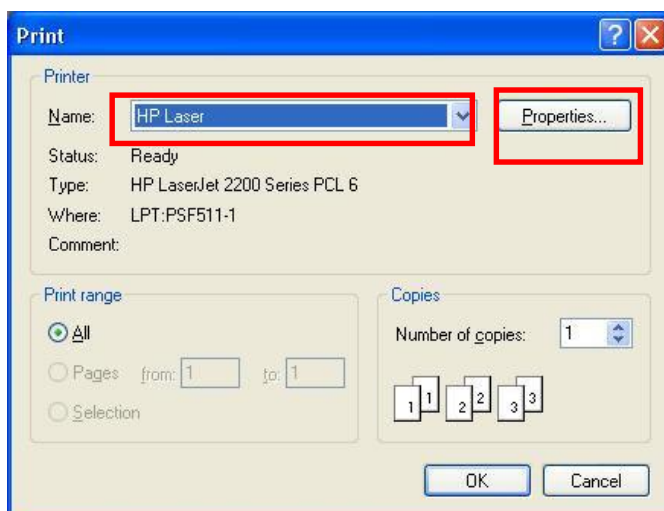

Fig 11.3b
Step 1 : In {Picture Viewer} or {Preview} panel, click [Printer Setup]  icon to pop up {Printer Setup} panel as shown on Fig 11.3b or click [Printing]  icon to print the current picture in A4 paper size.
User should setup the Printer in {Printer Setup} panel as shown on Fig 11.3b for each printing.